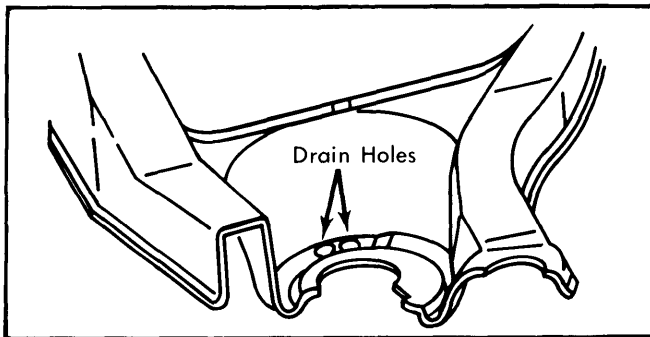

Fig. 4 Coil Spring Positioning
**Installation** – Position spring into frame so lower end of coil covers all or part of one inspection hole in lower control arm. Second hole must be partly or completely uncovered (see Fig. 4). Position lower arm in frame. Install front pivot bolt first and remaining bolts and nuts. On Fleetwood Brougham and DeVille, rear bolt must be installed in same direction as removed. Reverse removal procedure to complete installation.